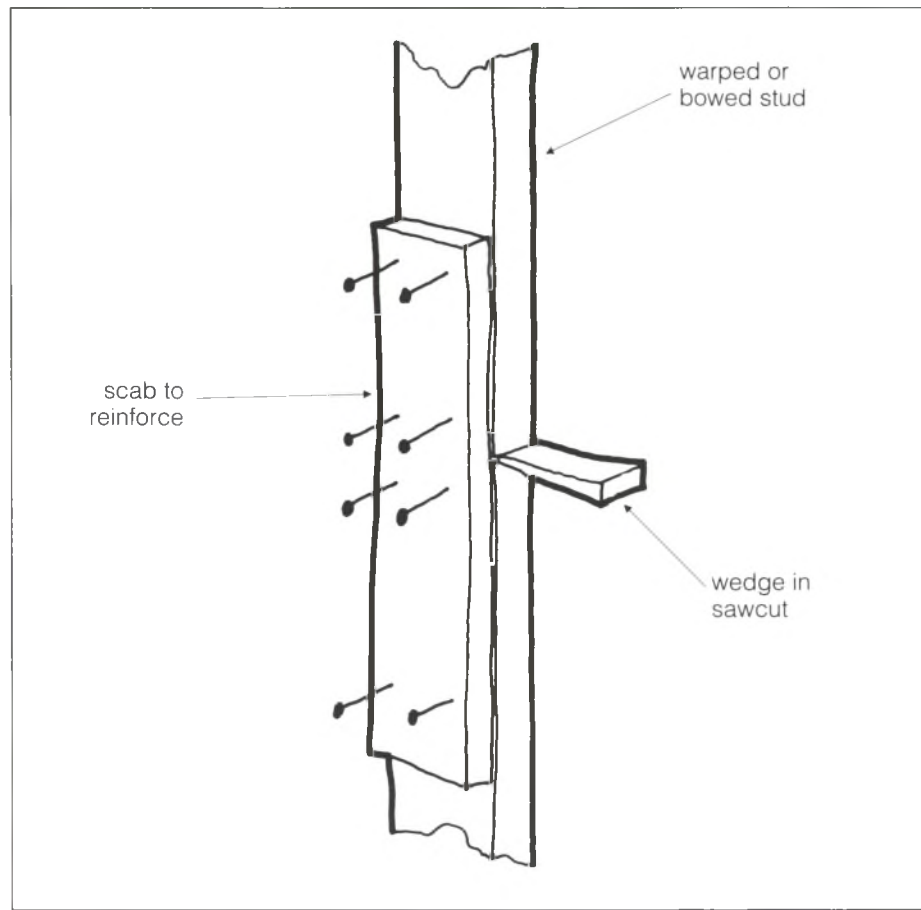

Fig. 2. Straightening warped studs
- Have framers align crowns in the same direction. Straighten warped studs by saw-cutting the concave or hollow side, driving wedges and nailing scabs (fig 2).